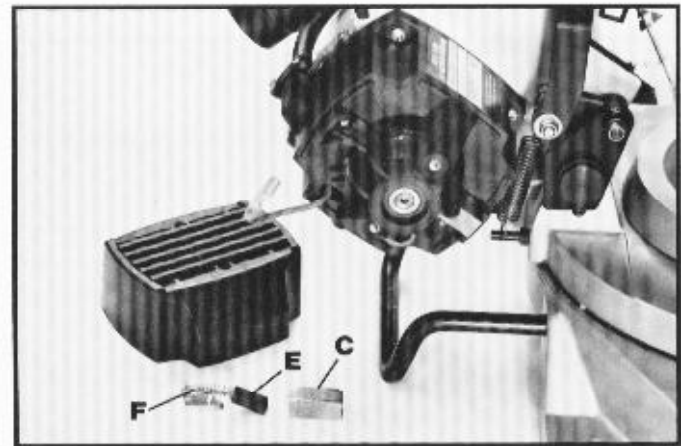

Fig. 66
3. Fig. 66, illustrates one of the brushes (E) removed from the holder (C). When the carbon on either brush (E) is worn to 3/16" in length or if either spring (F) or shunt wire is burned or damaged in any way, replace both brushes. If the brushes are found serviceable after removing, reinstall them in the same position as removed.